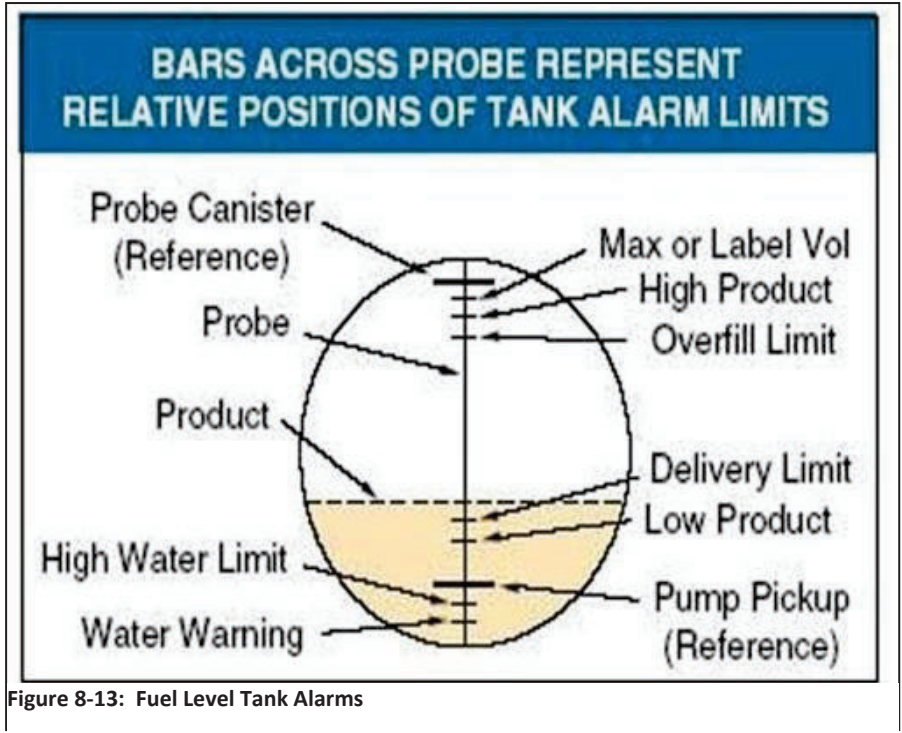

Figure 8-13: Fuel Level Tank Alarms
- An overfill condition exists when, during a fuel drop, the gasoline level in the UST exceeds the Overfill Alarm setting, which is 90% capacity of the UST. **See Figure 8-13.**